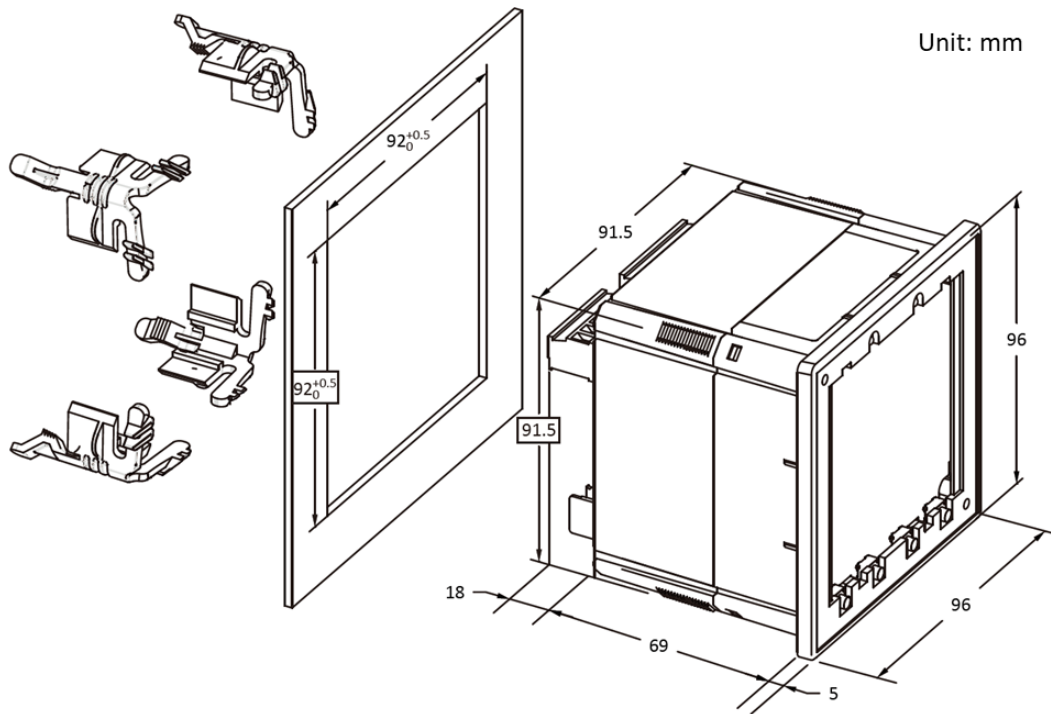

Figure 2-11 Panel Cutout
- Fit the meter through a 92mmx92mm cutout as shown in **Figure 2-11**